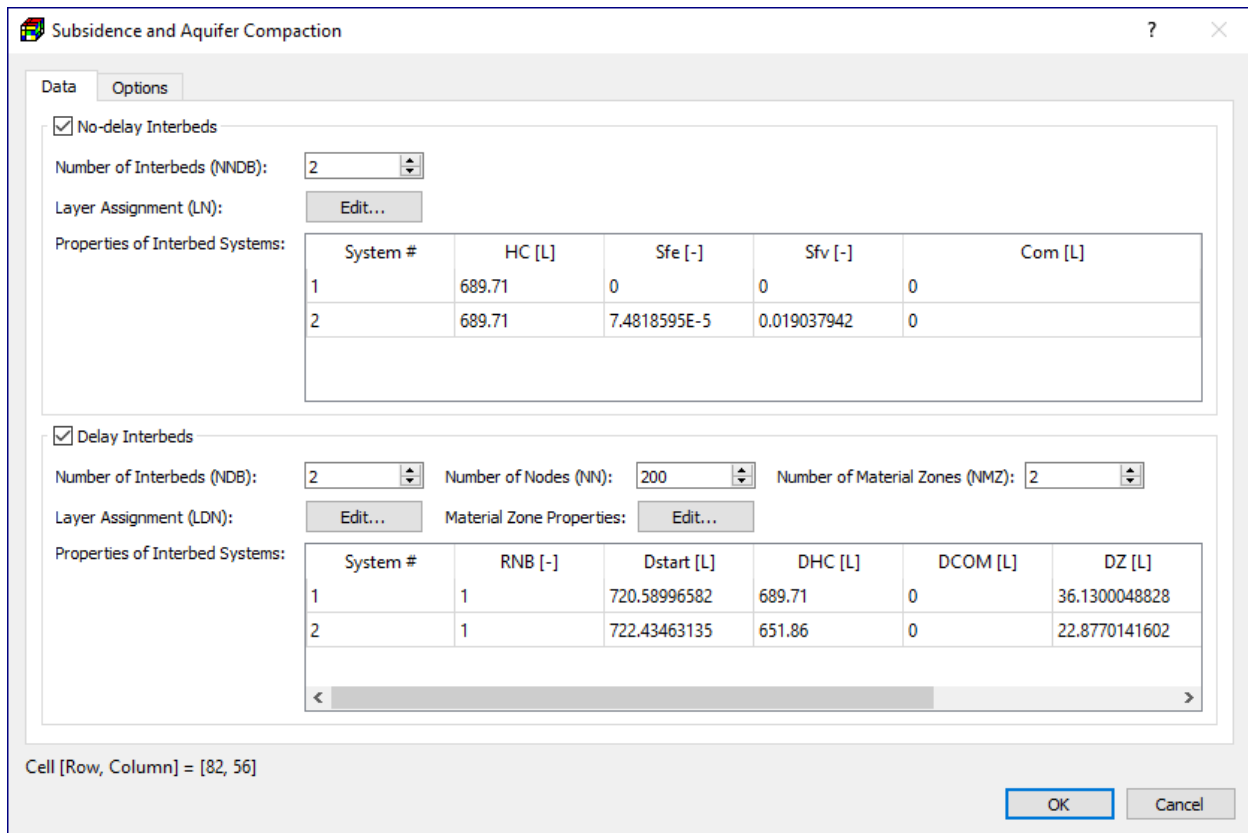

Figure 75. The Subsidence and Aquifer Compaction dialog box
1. **Cell-by-cell input method:** Figure 75 shows the dialog box for specifying cell properties.
- **Layer Assignment (LN):** Click the Edit button to open the Layer Assignment dialog box that allows you to assign systems no-delay interbeds to model layers.